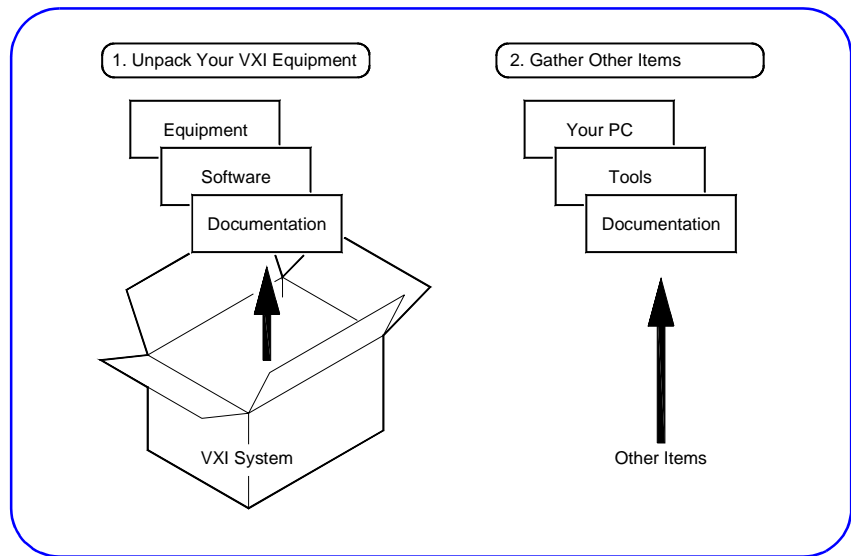

Figure 4. Inventory/Gather Equipment
- 1 Unpack and inventory hardware, software, and documentation for your VXI system (see Figure 4). For pre-configured systems, you can use the *Packing List* that accompanied this guide to check the equipment contents.
- 2 Gather other items not received with your system, such as your PC, computer documentation, tools, etc., that you may need to assemble your system (see Figure 4).